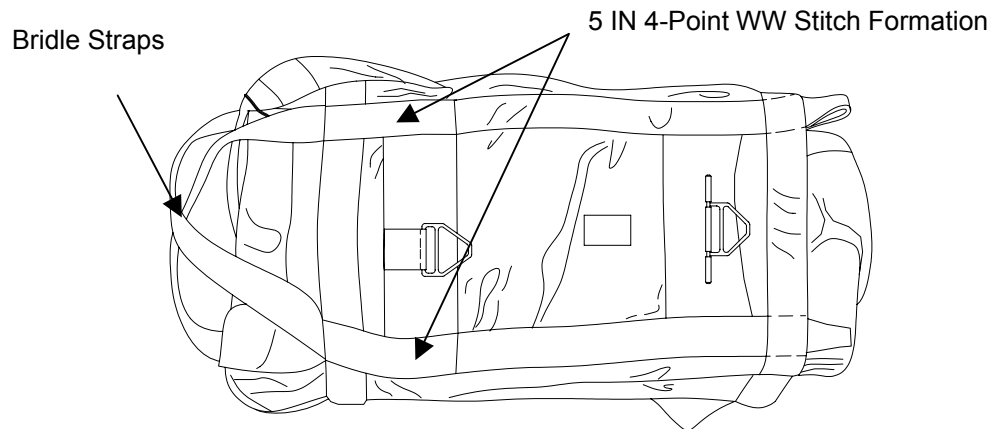

Figure 4. Bridle Straps Attached to Extraction Parachute Deployment Bag.
- f. Cross the bridle straps diagonally over the end of the bag. Sew the free ends of each bridle strap to the type VIII reinforcement webbing on the opposite side of the bag with a 5-inch, four-point WW stitch formation with size 3 nylon thread (figure 4).